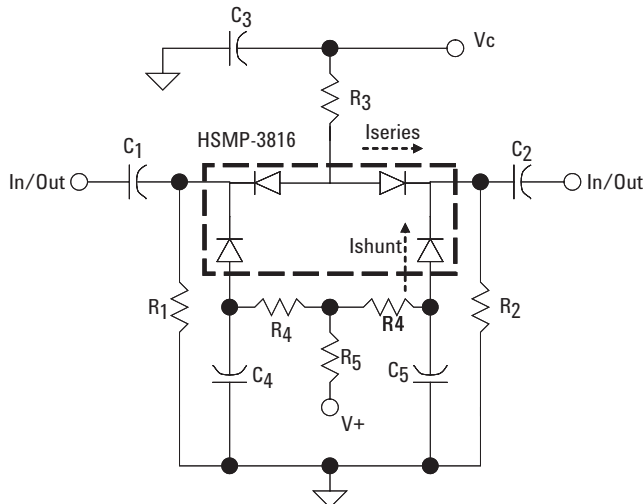

Figure 1. Wideband Quad PIN Diode π Attenuator Circuit
3. The Max Input Power is tested using demoboard as shown in Figure 1 at the worst-case (highest attenuation) bias condition of V+=5V, Vc=0V.
1. Measurement above obtained using Wideband RF circuit design shown in Figure 1 & 2
1. Measurements above were obtained using Wideband RF circuit design shown in Figures 1 and 2.